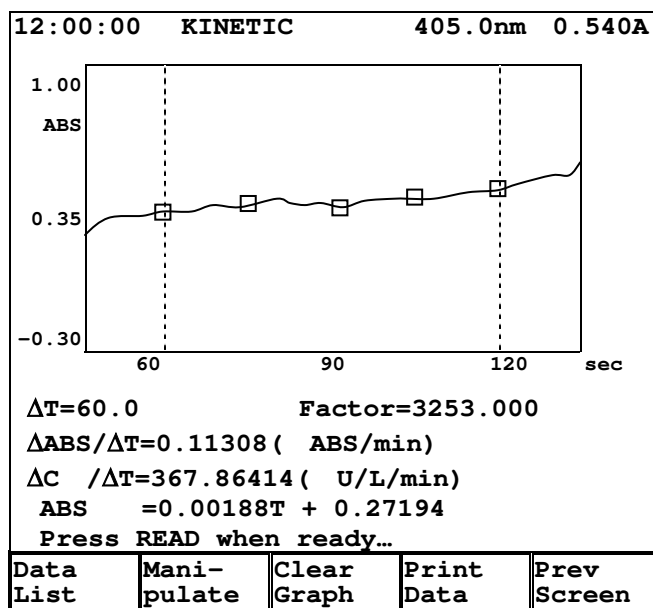

Figure 8.3 Kinetic measuring screen
Step 3. Make the sample ready and press READ. The measurement result will be displayed in the Kinetic screen (Figure 8.3) in real-time mode. The measuring curve shows the measurements taken by the instrument. After completion of the measurement, the instrument will take the pre-set number of sampling measurements for calculation to perform linear fitting. The small blocks shown on the curve represent sample measurements during the rate time. Those blocks are used for linear fitting and the equation of regression is shown at the bottom of this screen. ΔT shows the rate time. $\Delta \text{ABS}/\Delta T$ shows the absorbance rate of change. $\Delta C/\Delta T$ shows the concentration rate of change after conversion by using the factor. In this screen users can to view the data of sampling point by pressing F1 Data List. Pressing F2 Manipulate will go to next step.